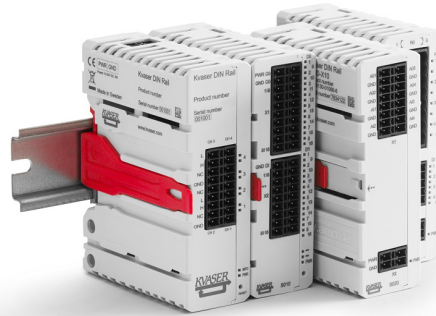

Figure 7: Pull the module out from the DIN Rail.
2. Pull the module out from the DIN Rail, see Figure 7 on Page 12.